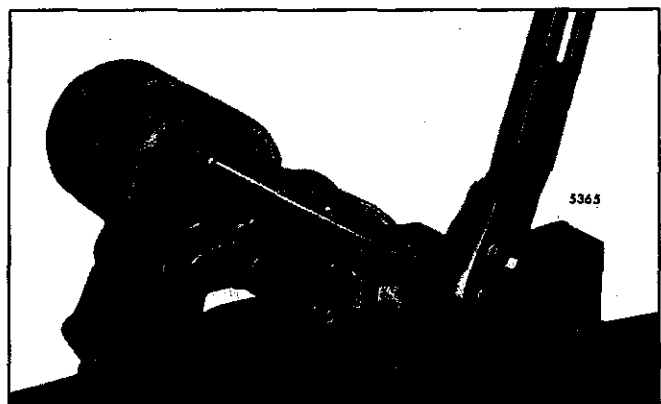

Fig. 15 – Tightening Connecting Rod to Piston Pin Bolts
8. Install and tighten the bolts finger tight. Then, clamp the connecting rod in a vise and tighten the bolts to 30-35 lb-ft (41-47 N·m) torque (Fig. 15). Do not exceed this torque.